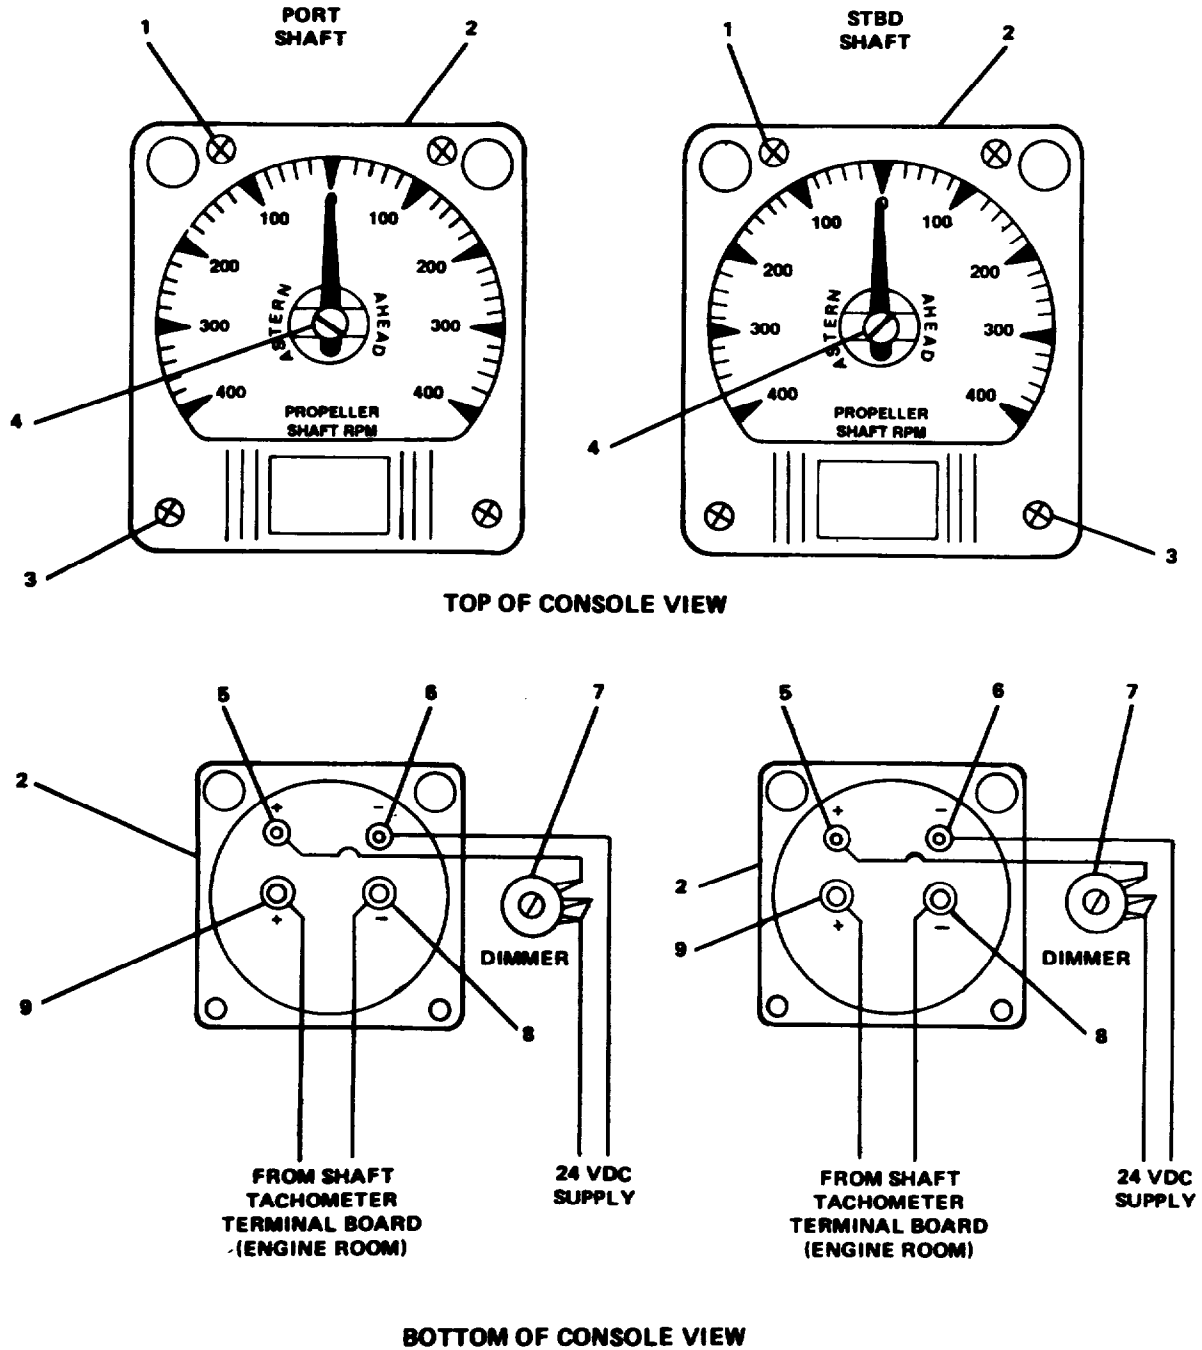
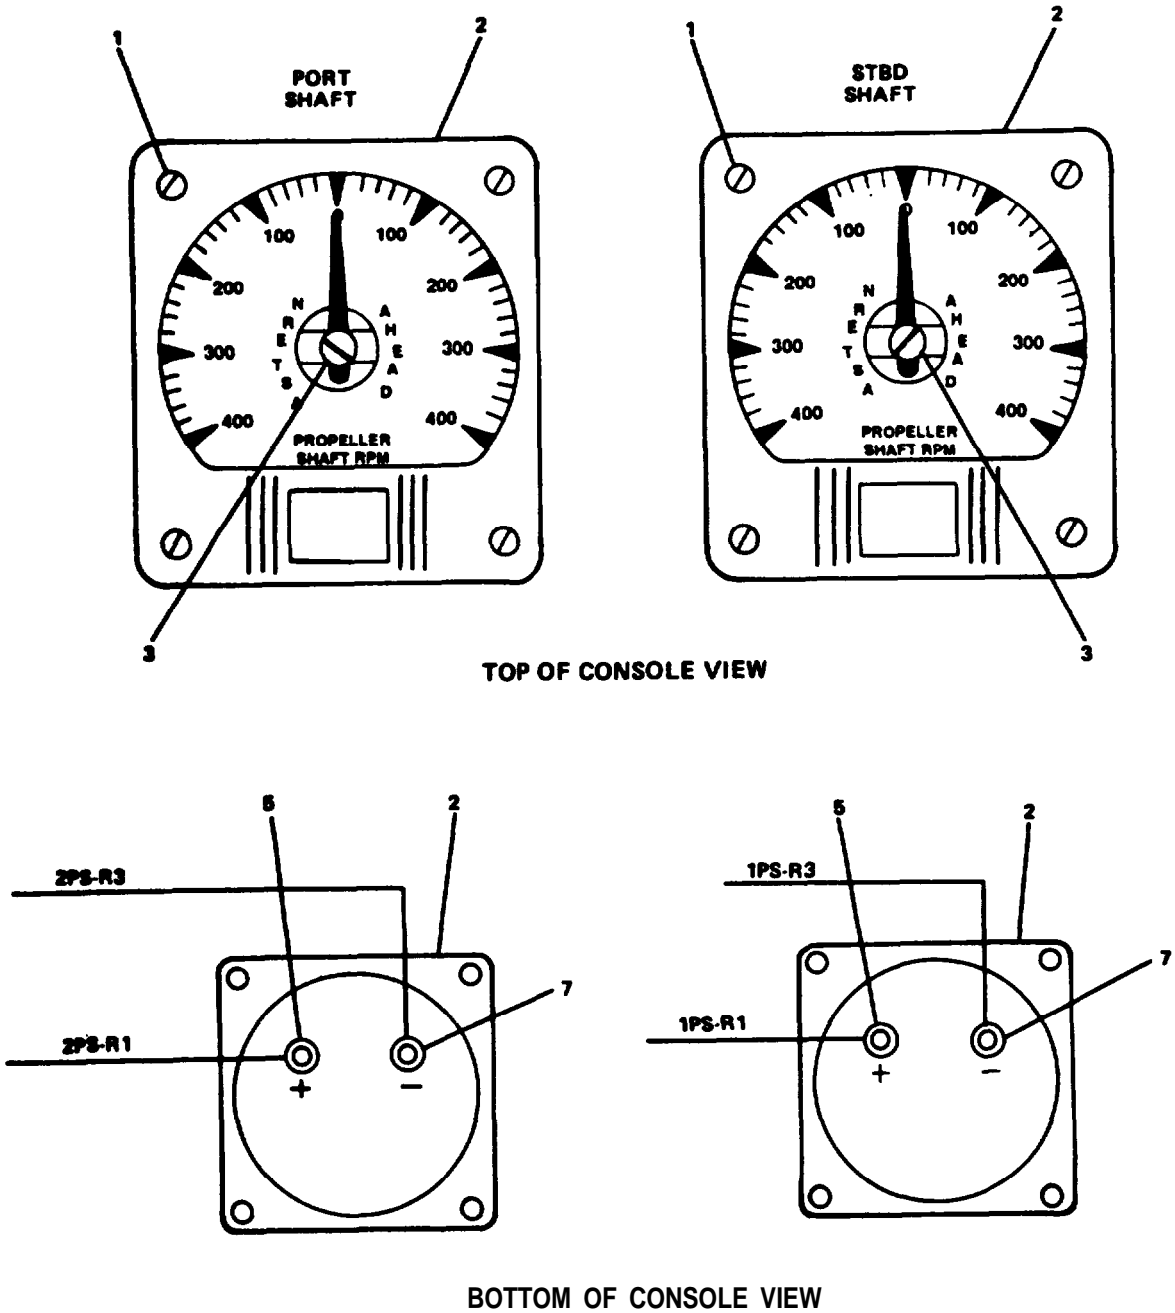

FIGURE 2-232. Wheelhouse Console Shaft Tachometers.
FIGURE 2-233. Engine Control Station Console Tachometers.
- (3) Using machine rule, measure and record gap distance between pickup sensing lug (2) on shaft flange (1) and end of motional pickup transducer (5). This measurement will be used to install replacement motional pickup transducer.
- (4) Loosen jam nuts (6) and remove motional pickup transducer (5) and jam nuts (6) from pickup mounting bracket (3).
- b. Remove arbitrary scale meter (2, FIGURE 2-232) (wheelhouse panel).
Repair of the electrical self generating tachometer is by replacing motional pickup transducer (5, FIGURE 2-232), dimmer rheostat (7, FIGURE 2-232) and arbitrary scale meter (2, FIGURE 2-232) or (2, FIGURE 2-233).
- (1) Position arbitrary scale meter (2, FIGURE 2-233) in engine control station console and secure with top mounting screws (1) and bottom mounting hardware.
- (2) Calibrate meter (2) by using screwdriver at point (3) on top of meter and aligning meter needle to the straight up position.
- (3) On bottom of console, connect wiring to terminals (5 and 7) on appropriate arbitrary scale meter (6). Remove tags.
- (1) Position appropriate dimmer rheostat (7, FIGURE 2-232) in console and replace any mounting hardware removed.
- (2) Connect wiring to appropriate dimmer rheostat (7). Remove tags.
- (3) Turn on 24 Vdc Supply by replacing appropriate fuse cartridge removed previously.
- (4) On ENGINE RM DC PNL EP024, use fuse puller and install appropriate fuse cartridge #14, SFT TACH (port) or #13, SFT TACH (STBD).
- (5) Using screwdriver, vary dimmer rheostat (7, FIGURE 2-232) and observe that appropriate arbitrary scale meter (2) illumination varies.